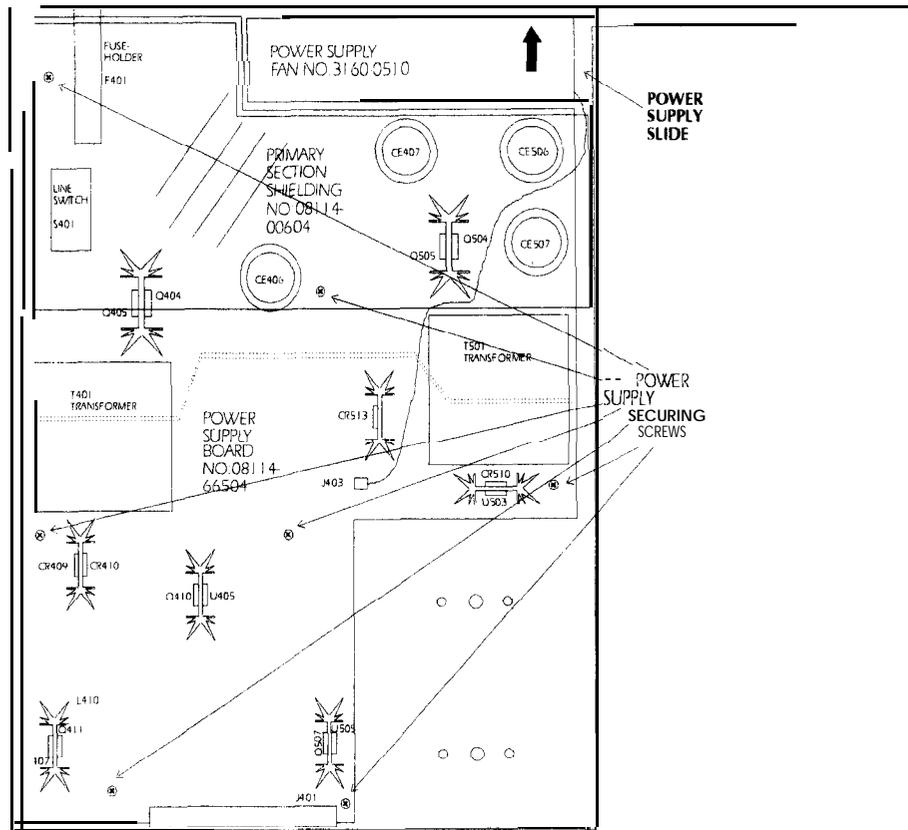

Figure 4-5.
3. Remove the primary section shielding, see Figure 4-5. Gently bend back the lip of the shielding to release it from the metal nose, then pull the shielding gently up, and lift it away.